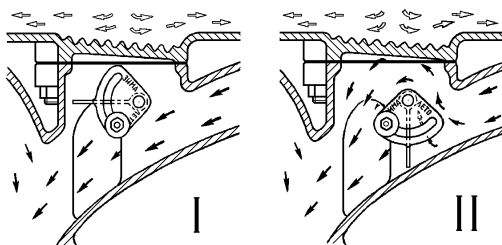

Fig. 34. Manifold Heat Control Valve:
**Inlet manifold.** During seasonal maintenance, set the manifold heat-control valve (Fig. 34) to the position corresponding to the coming season of the year.